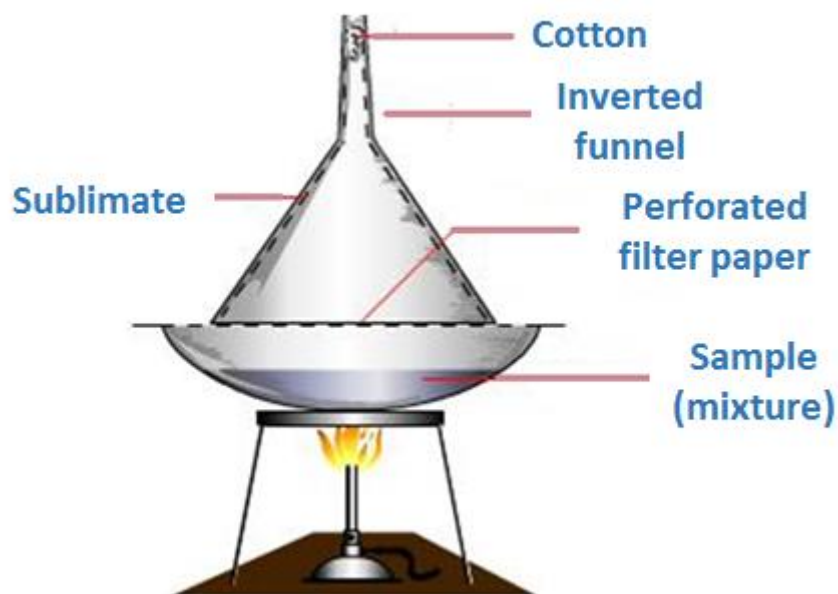

Figure 4: Experimental set up for sublimation
3. Place a funnel upside down on the crucible and paper as shown in Figure 4. Record Wt_1 (as explained in Results section)